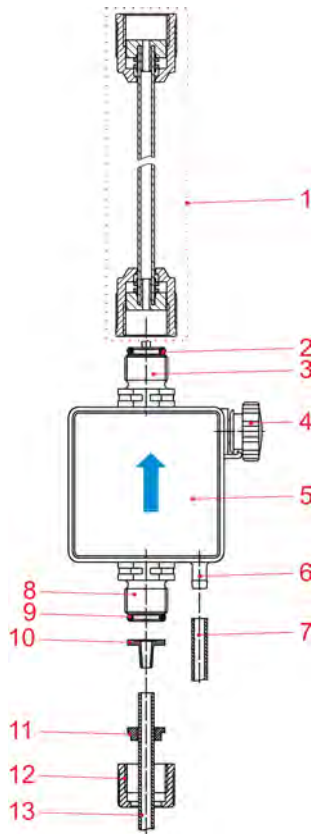

Fig. 9: Hydraulic installation
When connecting the suction and pressure line, ensure that the required seal is achieved by mounting O-rings on the connections (Fig. 9 , item 5 and item 11).
1. ➤ Fit the O-ring (Fig. 9 , item 2) in the valve groove.
4. ➤ Mount the prefabricated metering line (Fig. 9 , item 1).
5. ➤ Lay the O-ring (Fig. 9 , item 2) in the valve groove and tighten the union nut.
2. ➤ Push the union nut (Fig. 9 , item 12) and clamping piece (Fig. 9 , item 11) over the hose.
3. ➤ Insert the union nut and clamping part up to the stop collar on the tapered part (Fig. 9 , item 10).
4. ➤ Fit the O-ring (Fig. 9 , item 9) in the valve groove.